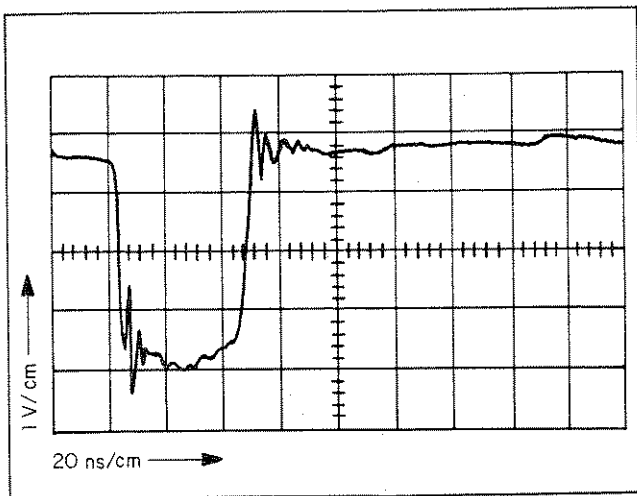

Figure V-5. STROBE PULSE
- (1) Locate the Strobe Output transformer, a small toroidal transformer with three windings located towards the front of the larger board.
- (2) Trigger the M162 at 5 kHz.
- (3) Monitor the signal at the ungrounded end of the one-turn winding. The signal should appear as shown in Figure V-5.